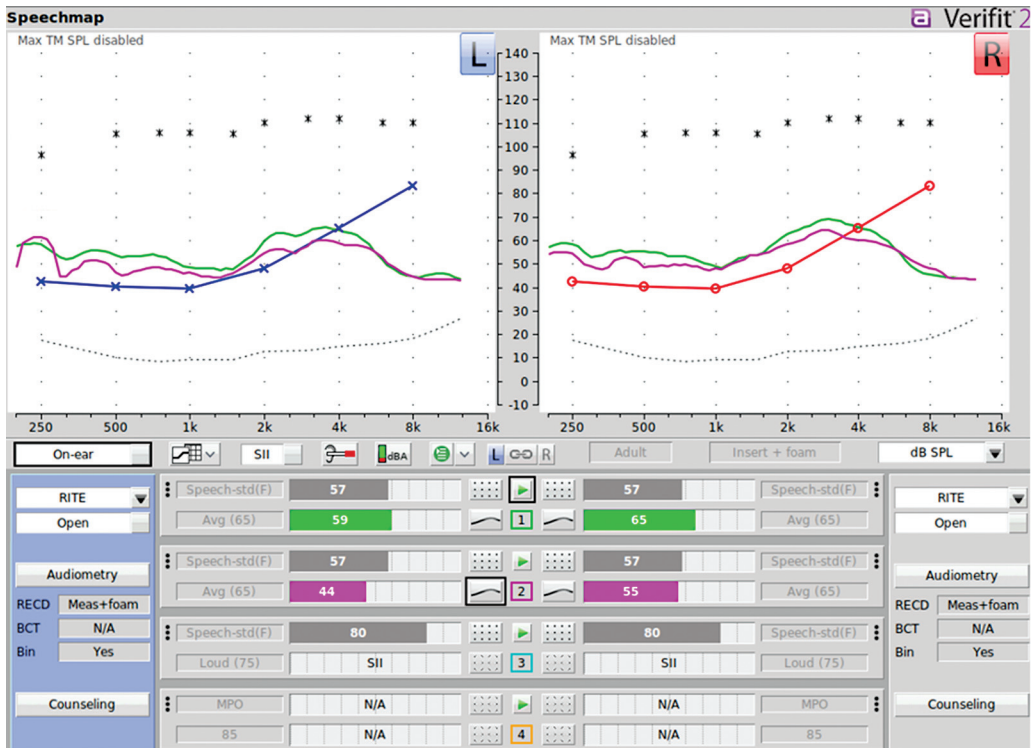

Figure 22 Directional results.
9. Take a second measurement (leaving the first one on the screen) again using **Average** at **65 dB** (Figure 22). If the directional setting is effective, the measurement taken with the speaker behind the patient should have an output that is lower by ≥ 3 dB than the measurement taken when the speaker was in front. In a directional setting, the sensitivity of the microphone should be decreased for signals coming from the back (thereby providing an advantage to signals coming from
the front). We expect adults to look where they are listening. Your measurement will be different from Figure 22 because you are using a different hearing aid.